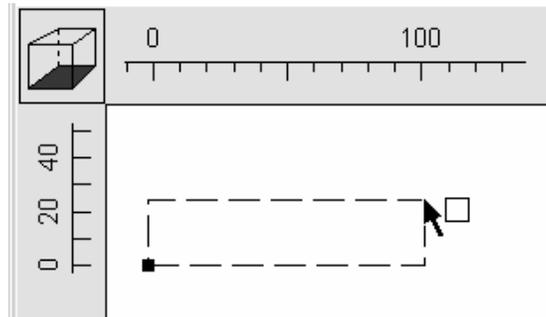

Figure 42. Creating a rectangle object in GoPhast.
5. Select **Object|Create Rectangle** and click twice on the top view of the model to create a rectangle whose opposite corners are close to (0, 0) and (100, 20.5) (fig. 42). The locations do not need to be precise because they will be edited later.